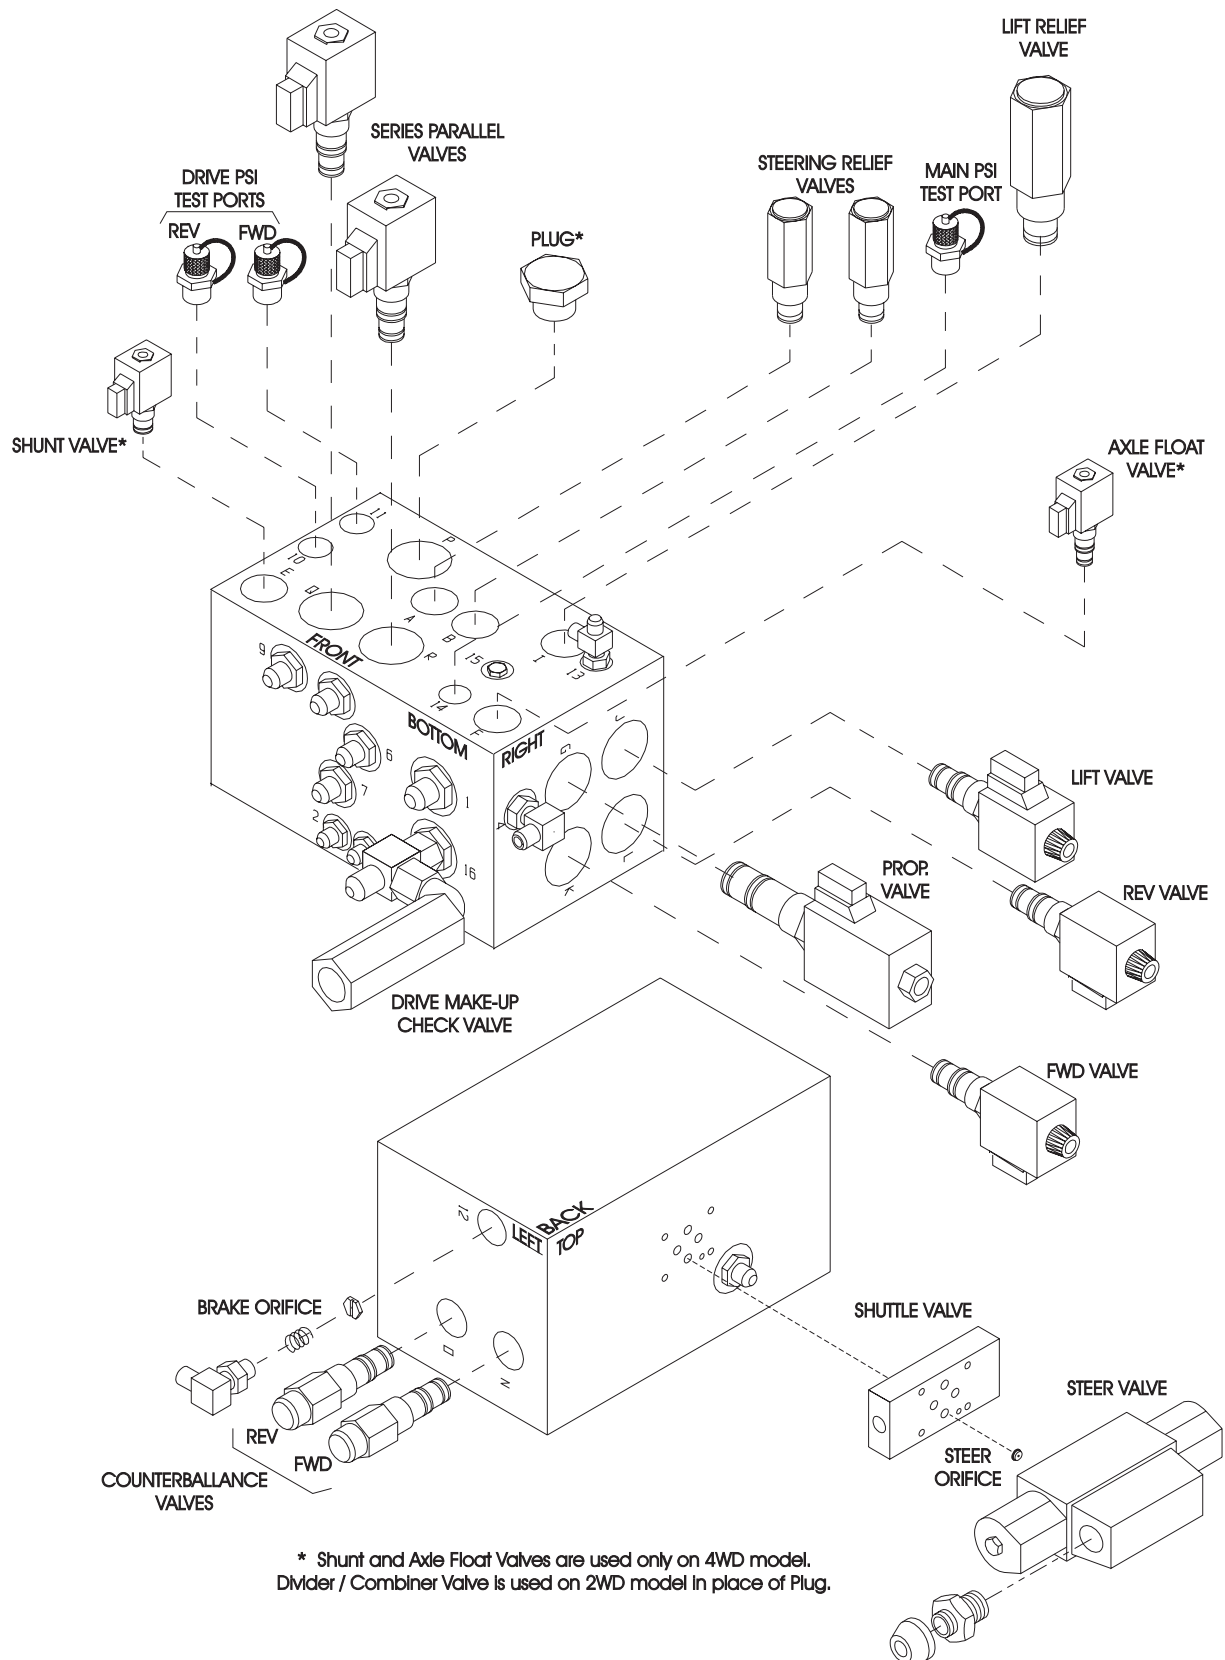

Figure 4-12: Hydraulic Manifold, Exploded View (4WD Shown)
## 4.7 Hydraulic Manifold (Figure 4-12)
**NOTE: Mark all components as they are removed so as not to confuse their location during assembly. Refer to Figure 4-12 often to aid in disassembly and assembly.**